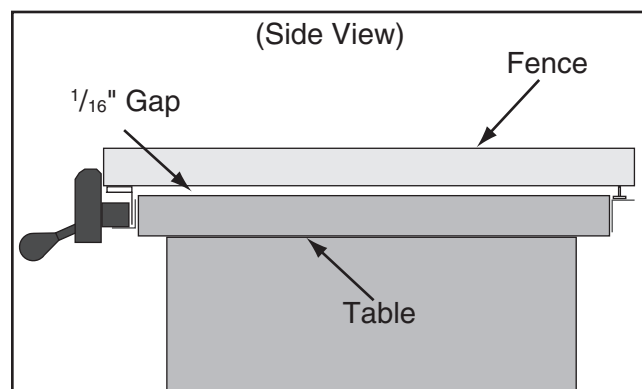

Figure 130. Gap between fence and table approximately $\frac{1}{16}$ " from front to back.
- If the gap is approximately $\frac{1}{16}$ " and even from the front of the table to the back (see **Figure 130**), then no additional adjustments are necessary. Proceed to **Clamping Pressure and Parallelism**.
—If the fence drags across the table, then loosen the hex nut on the foot at the rear of the fence and adjust the foot to raise the fence off of the table so the gap is approximately $\frac{1}{16}$ " and even from the front of the table to the back (see **Figure 130** on **Page 75**). Then, tighten the hex nut on the foot.